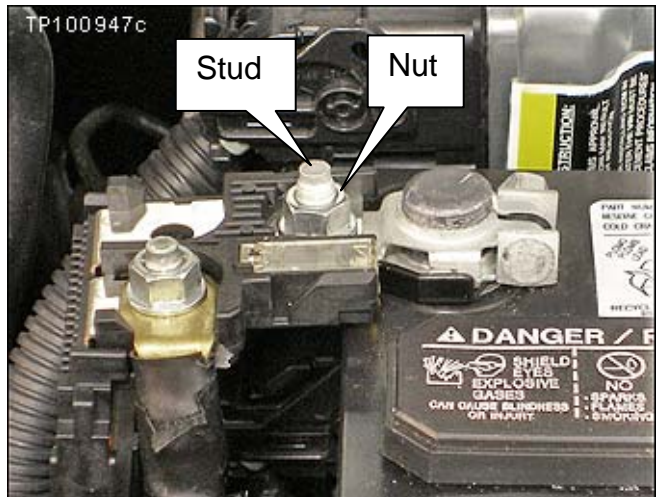

Figure 8
12. Install the nut shown in Figure 8.